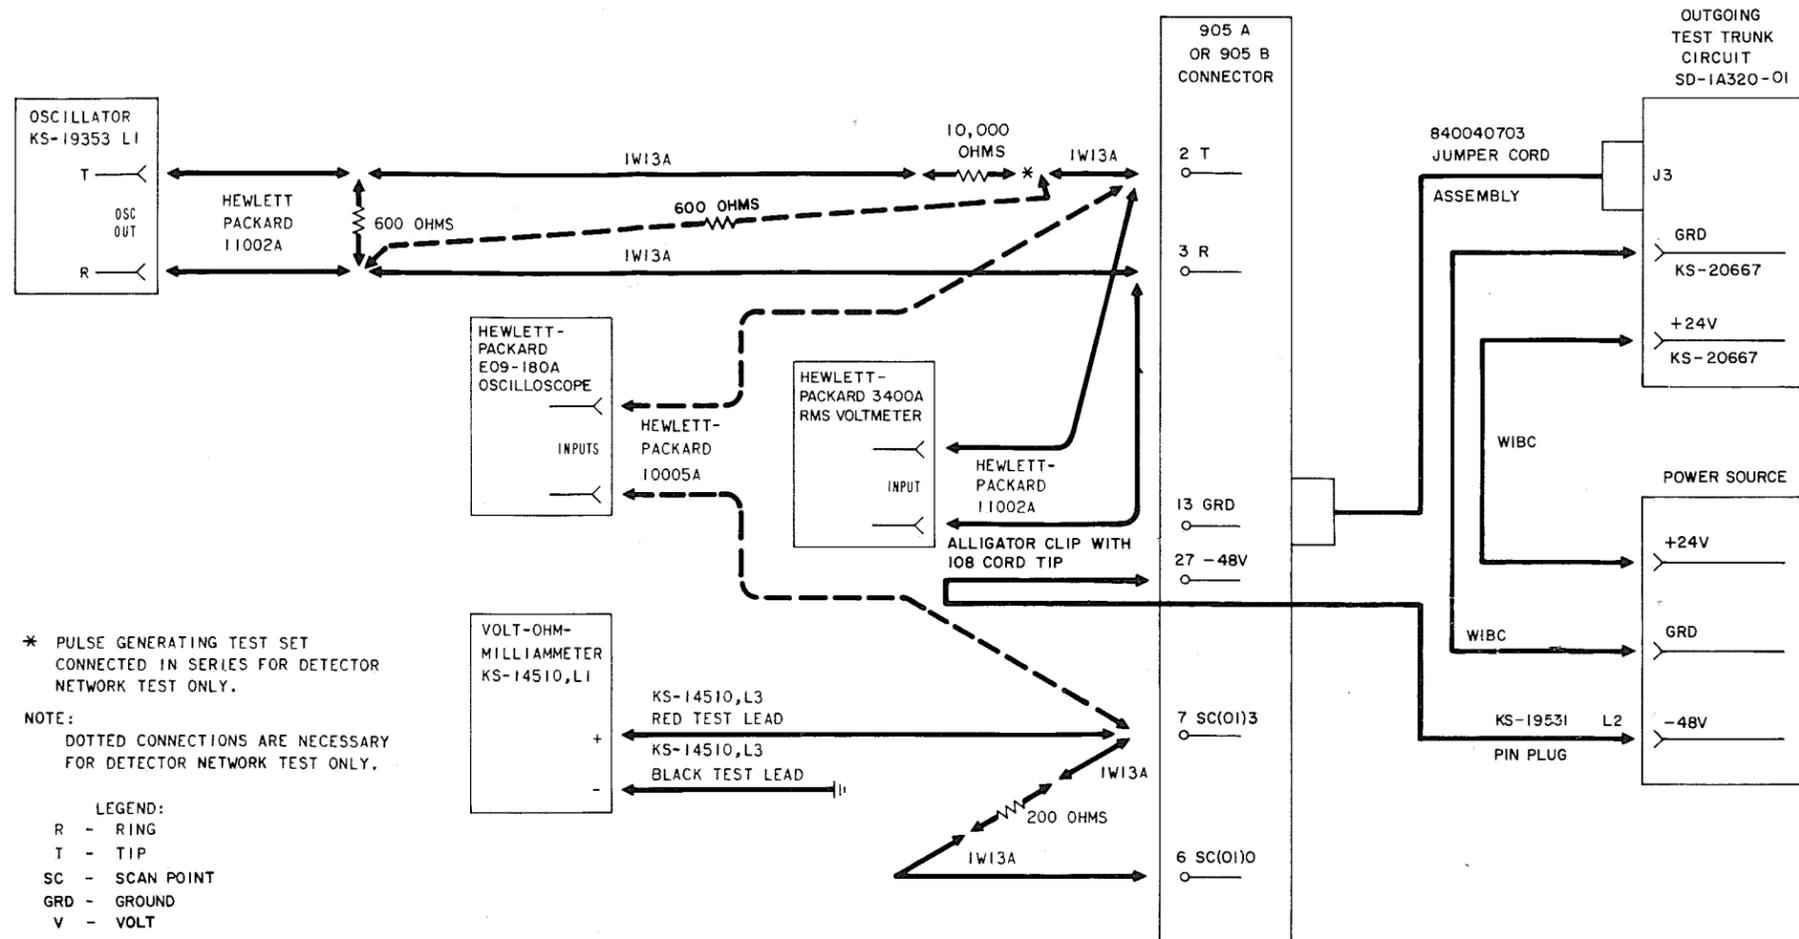

Fig. 1—Test Connections
- (c) To remove Fig. 1 and change references
4	At test circuit— Remove circuit cover and unit from case so that the SD-1A320 circuitry is exposed. Connect the jumper cord assembly with 905A or 905B connector in place to the KS-16786 connector. Also connect the +24 volt and the -48 volt supplies and ground as required. Set the TYPE OF OFFICE switch to NON SXS and establish other connections as shown in Fig. 1.
13	At board-to-board circuit— Open connection of oscillator that is in series with 10,000-ohm resistor to terminal 2 and insert, in series, nonprotected contacts of pulse generator. Also insert a 600-ohm resistor between the tip and ring (terminals 2 and 3) as shown in Fig. 1.
14	Connect oscilloscope by use of two 10005A probes to compare input signal between terminal 2 and output signal at terminal 7. (See Fig. 1.)
19	Remove all connections established as shown in Fig. 1.